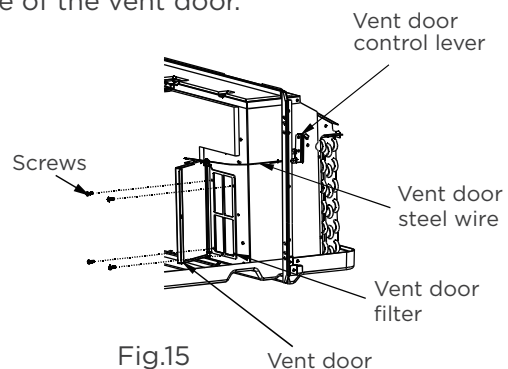

Fig. 15
(See Fig. 15)
- Remove four screws from the vent door filter. (See Fig. 15)
- First pull out the vent door steel wire from the hole of the vent door, then take off the vent door and filter. (See Fig. 15)